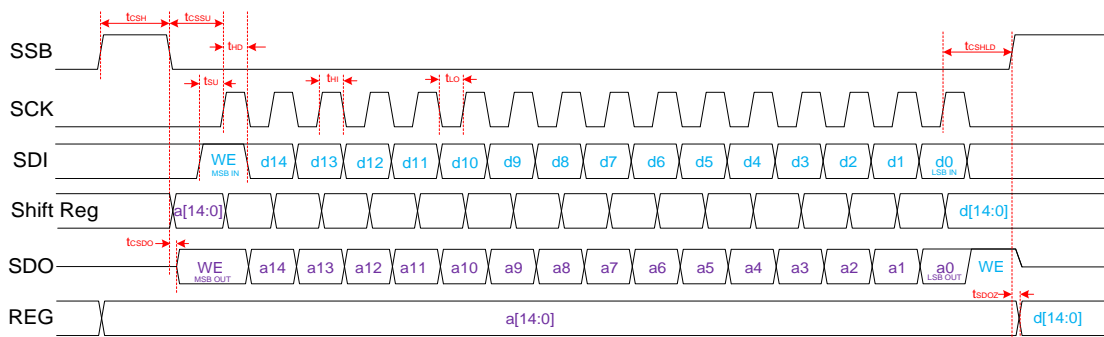
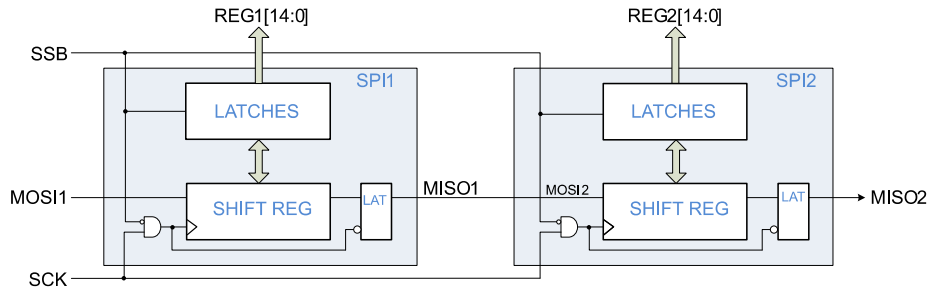
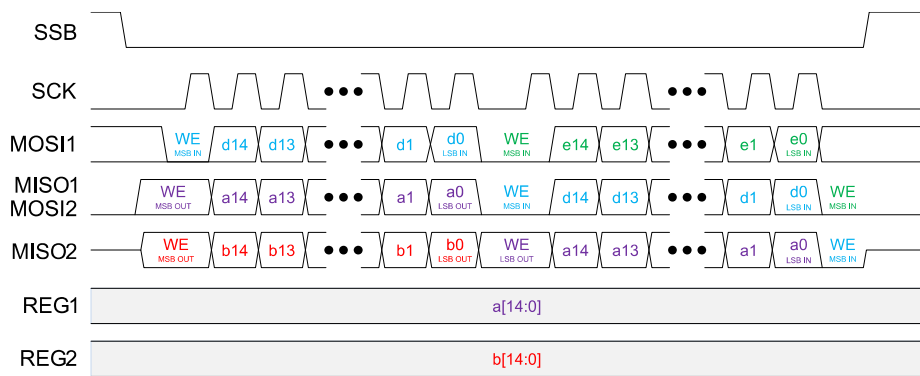
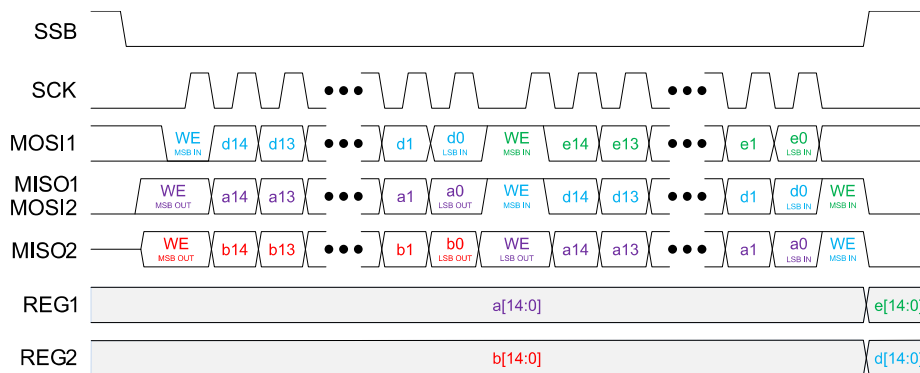

Figure 15. SPI Timing Diagram
Figure 18. SPI with Two ICs Daisy-chained
Figure 19. SPI Read Only (Two ICs Daisy-chained)
Figure 20. SPI Read & Write (Two ICs Daisy-chained)
MODE = 0, activates the 16-Bit Serial Peripheral Interface (SPI) module for operation. Multiple devices can be daisy-chained to drive multiple ICs using one SPI bus. In Daisy Chain Operation, see Figure 18, Figure 19, and Figure 20.
SPI timing diagrams are provided in Figure 15 through Figure 20. In SPI mode, data transmission starts when SSB goes Low, causing the Target to output the Most Significant Bit (MSB) of data to the SDO (MISO) pin. Data transfer from Host to Target takes place during the rising edge of the clock (SCK), which is idle when SSB is High. This mode of operation requires data for Host and Target to be present on SDI (MOSI) before the rising edge of the clock (defining SDI to SCK setup time). Data is pushed out of the SDO (MISO) pin during the falling edge of the clock. After the first 16-bit transaction, Host writes the latest data (DN) to
Daisy chaining the ICs is permitted and involves connecting the MISO of one chip to the MOSI of the next chip in the chain, as shown in Figure 18. SPI timing diagrams with daisy-chained devices are provided in Figure 19 and Figure 20.